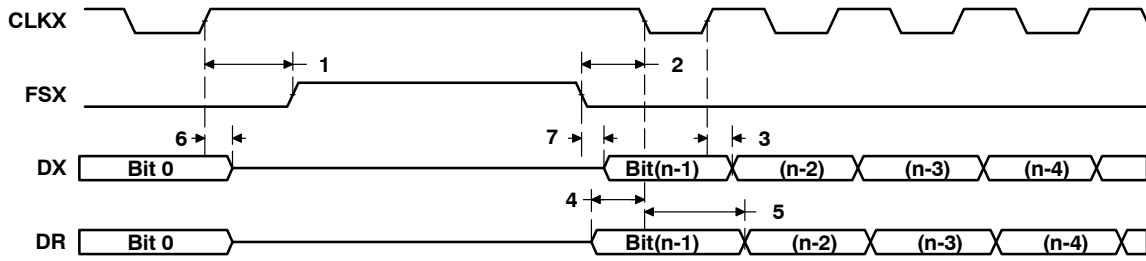

Figure 39. McBSP Timing as SPI Master or Slave: CLKSTP = 11b, CLKXP = 1
**timing requirements for McBSP as SPI master or slave: CLKSTP = 11b, CLKXP = 1†‡ (see Figure 39)**
**switching characteristics over recommended operating conditions for McBSP as SPI master or slave: CLKSTP = 11b, CLKXP = 1†‡ (see Figure 39)**